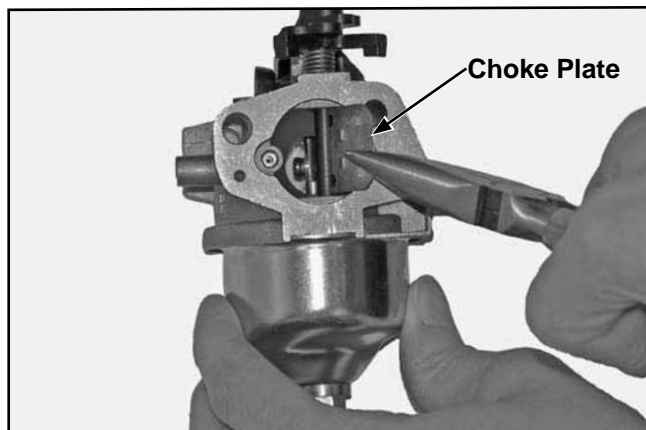

Figure 5-13. Choke Plate Removal.
6. Grasp the choke plate with a pliers and remove it from the choke-plate shaft. See Figure 5-13.